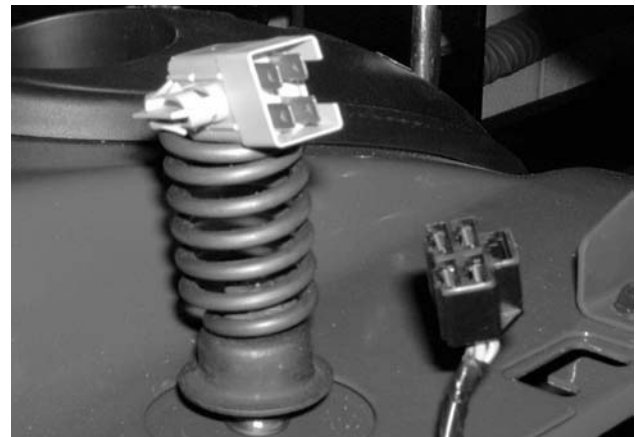

Figure 9-72
6. Disconnect the wiring harness connector from the seat switch. See Figure 9-72.